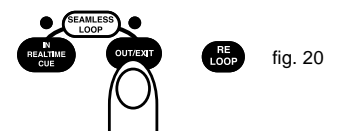

fig. 20
- (4) To exit SEAMLESS LOOP, press OUT/EXIT BUTTON (21). LEDs will stay on but not flash. Music will resume normal play (figure 20).